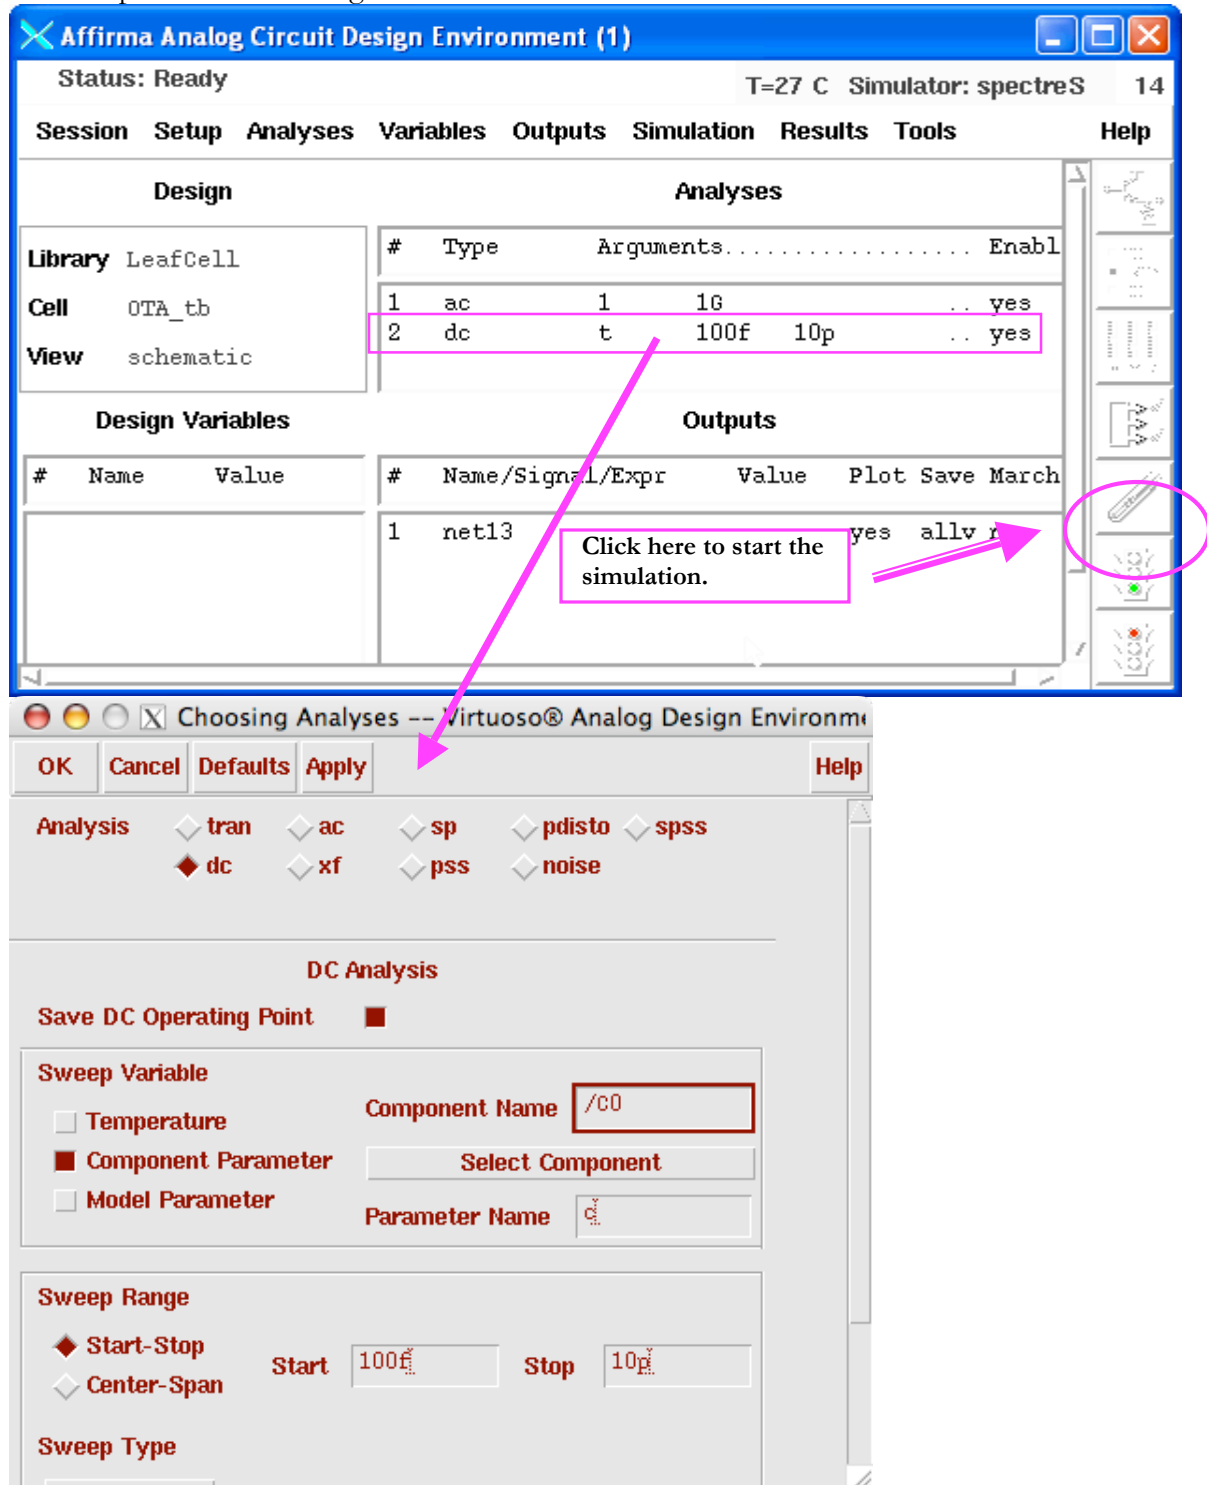

Figure 143: setting up the Affirma Form for simulation.
11. From the *OTA_tb* schematic window, go to *Tools... Analog Environment* to open the form. Set up the form as in Figure 143.